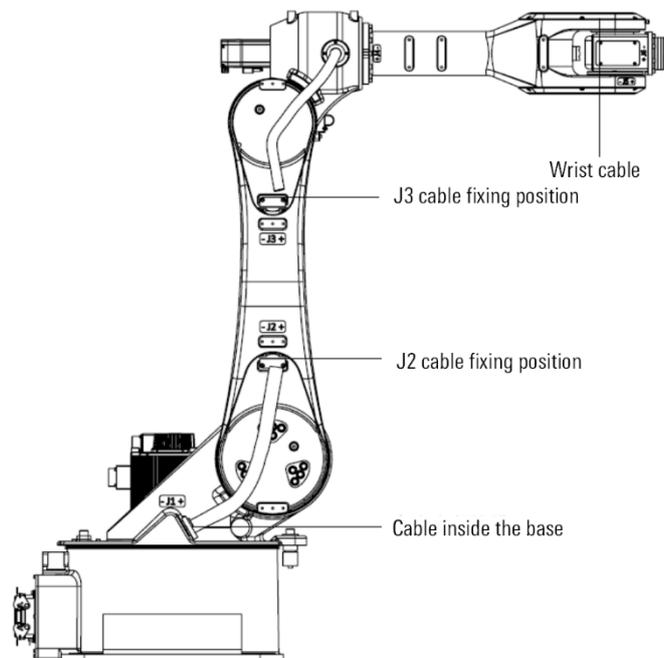

Figure 12-1 Layout for cables of manipulator
To ensure the long-term operation of robot, the manipulator cable shall be checked every 1,920 h or 6 months (whichever comes first). Layout for Cables of manipulator as shown in Figure 12-1.
- Step8. The cable in the base to keep the shape "U" type like the Figure 12-1 .